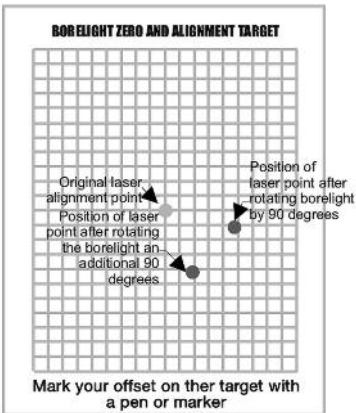

Figure 2-5
6. Rotate the borelight 90 degrees in a clockwise direction. See Figure 2-5.
7. If the laser point moves off of the center point marked on the target, mark the new position of the laser point. See Figure 2-5. If the laser point does not move from the Center Point, then you may proceed to Section 2-2, Boresighting Procedures. If the laser point traces a circle on the target, then the borelight has not been properly adjusted. See 8. to 11. Below
8. Rotate the borelight again by an additional 90 degrees. At this point the Elevation Adjustment Knob should be facing down. This is 180 degrees from the starting point. See Figure 2-5. Mark the new position of the laser point on the target.